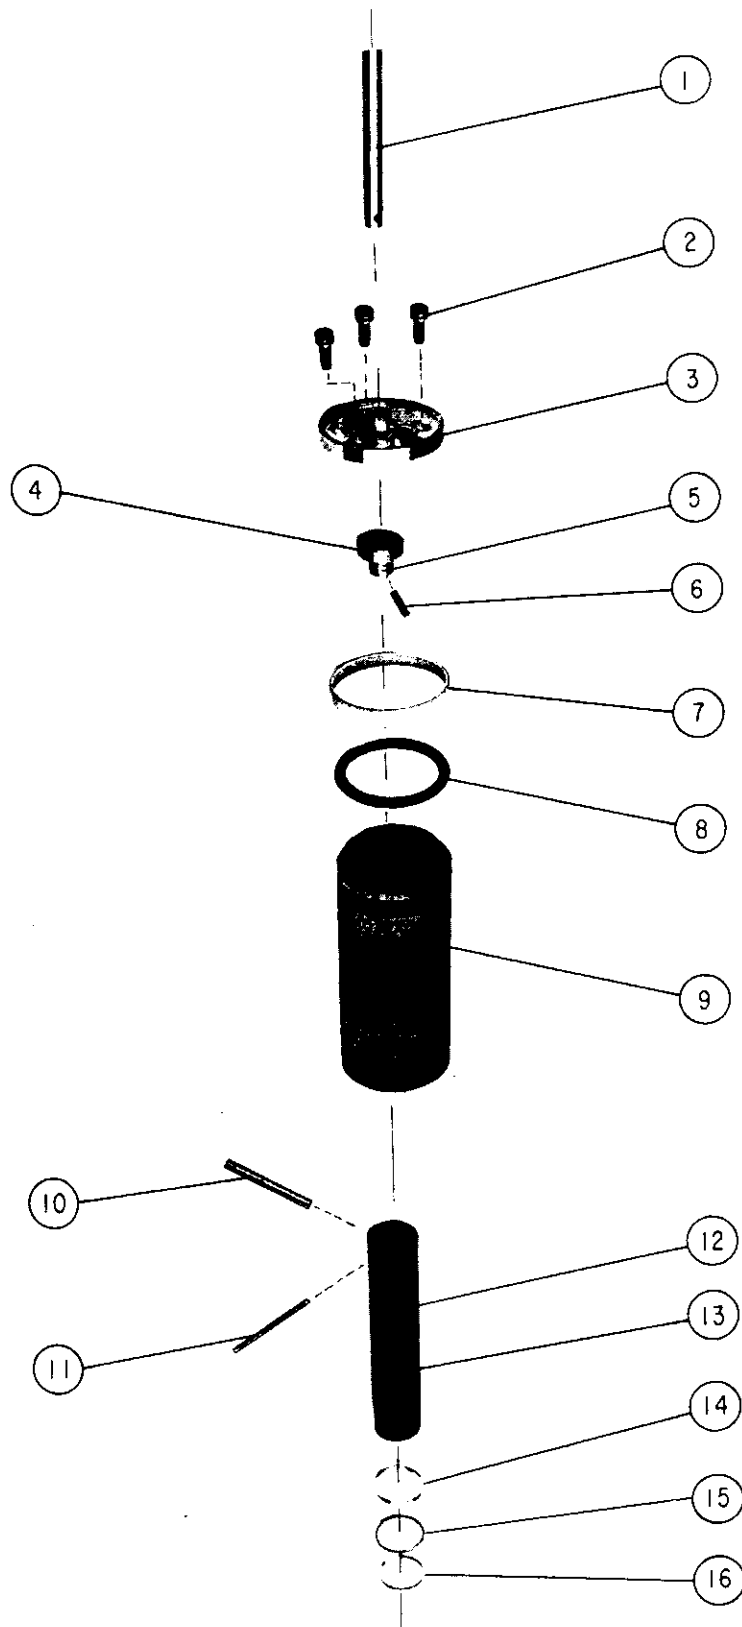

FIGURE 6-1 EXPLODED VIEW OF THE DISPLACER ASSEMBLY
(1)... Remove the seal ring and the expander ring (15, 16, Figure 6-1), being careful not to scratch or mar the sides of the seal groove.
(4)... Support the displacer assembly on a padded surface. Then, using a straight punch, push the No. 1 displacer locking pin (11, Figure 6-1) from the No. 1 displacer pin (10, Figure 6-1).
(2) Be careful not to allow the inserting tool (14, Figure 6-1) to fall from the displacer. If this happens, reinstall the tool with the inside chamfer of the tool toward the bottom of the displacer. The tool must be between the seal groove and the top of the particular displacer.
(3) If the bottom closure of any displacer is loose or separates from the displacer, call the 500 INCORPORATED Field Service Department for assistance.
(8)... Install the No. 2 displacer seal. To do this, slide the expander ring (16, Figure 6-1) over the displacer and into the seal groove. Next, slip the seal ring (15, Figure 6-1) over the displacer and into the seal groove in the same manner. Stagger the opening in the seal ring 180° around the circumference of the displacer from the opening in the expander ring.
(9)... Carefully work the inserting tool (14, Figure 6-1) downward along the No. 2 displacer to the vicinity of the No. 2 displacer seal.
(1)... Fully extend the scotch yoke and then reinstall the upper cap of the No. 1 displacer, the collar, and the pin (3, 4, 6, Figure 6-1) as shown in Figure 6-1.
(4)... With the inserting tool in place (14, Figure 6-1) hold the refrigerator unit over the cylinder cavity and gently lower the displacers into the cylinders.
LEGEND - FIGURE 6-1
*See exploded view in Figure 6-1